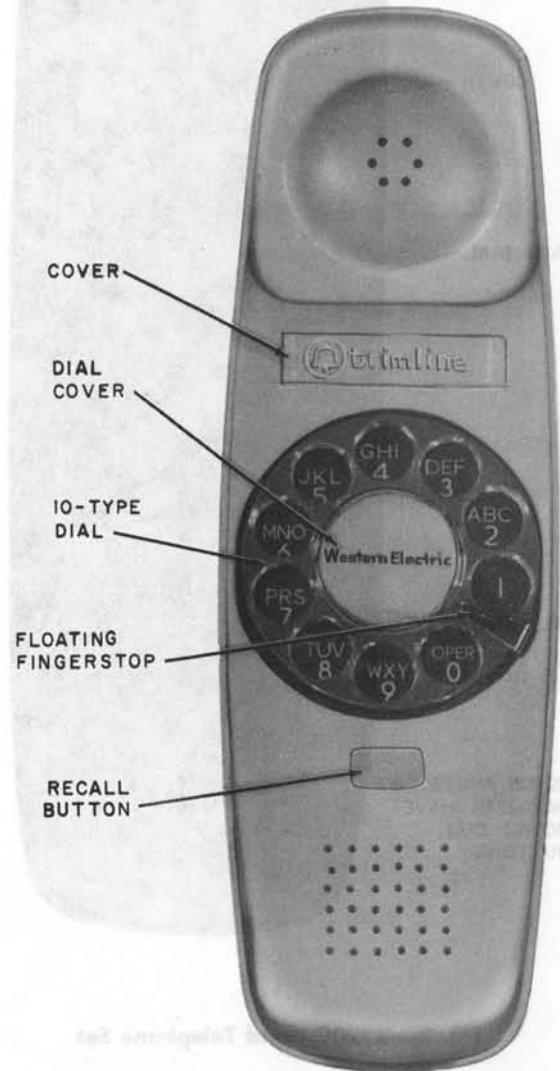

Fig. 1—220-Type Hand Telephone Set
2.01 The 220- and 2220-series hand telephone sets (Fig. 1 and 2) contains the dial and speech network. The AC- and AD-type telephone bases contain the ringer, line switch, terminal board, and jacks for the handset and mounting cord. A complete TRIMLINE® telephone set includes the hand telephone set, telephone base, and cords. Refer to Table K for identification of associated apparatus.
- Dial Cover (Fig. 1 and Table B)
- 812362382 (P-23F238) Light Seal Plate [220A (MD), 220AM, 2220B (MD), 2220BM, and 2220BMG only]